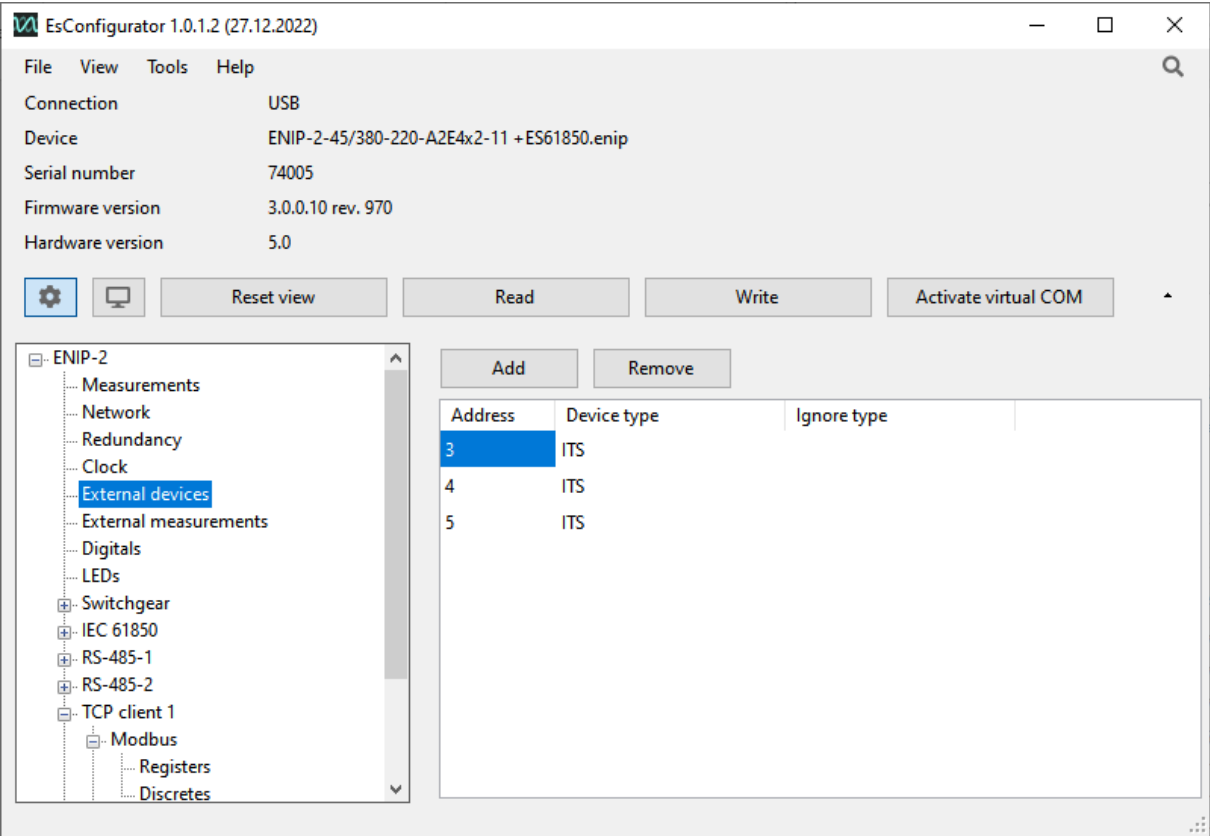

Figure 5.4. Add ITS sensors to ENIP-2 configuration
1. In the *External devices* section of the ENIP-2 configuration, add ITS sensors and specify their addresses (you can add up to 10 sensors), see fig. 5.4.